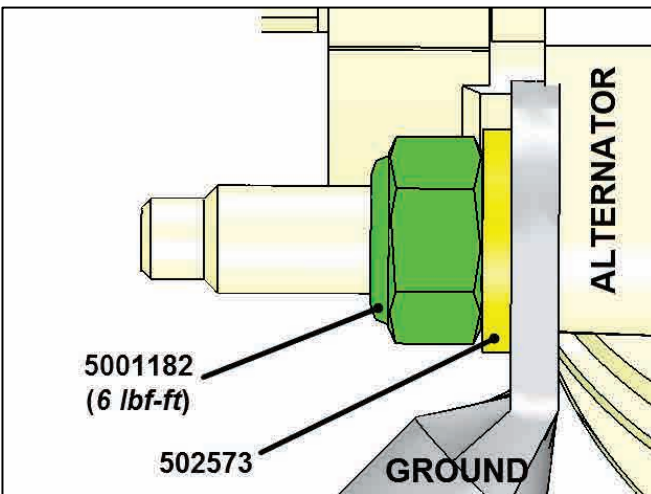

Figure 5
8. Apply prescribed torque (Fig. 5)